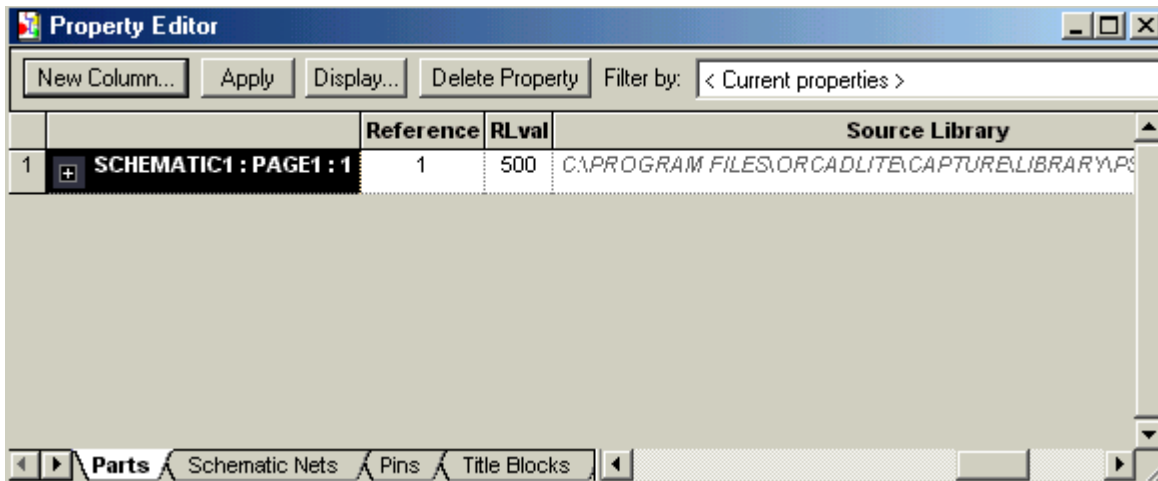

Figure 3.4.4: Property Editor window for the PARAM part, showing the newly created RLval column.
- You will notice that the new column $Rlval$ has been created. Below the $Rlval$ enter the initial value for the resistor: lets make it 500, as shown in Figure 3.4.4 below.